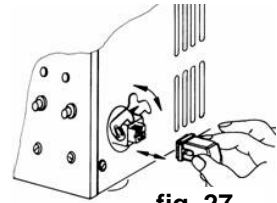

fig. 27
- Plug in the plug into the socket of the machine (fig. 27).